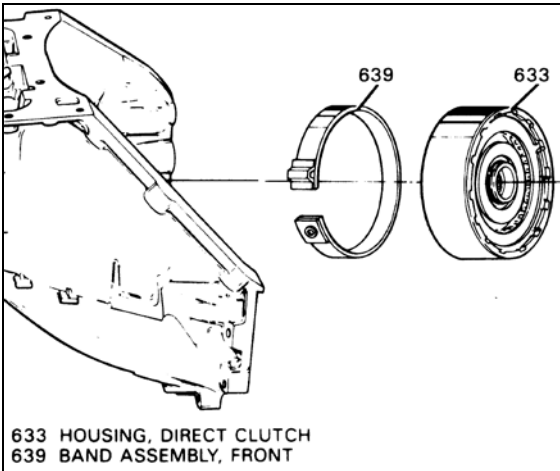

FIGURE 2-53
Remove the front band (639) from the case. See Figures 2-53 and 2-54. Note that modified transmissions may not use an intermediate band at this location.